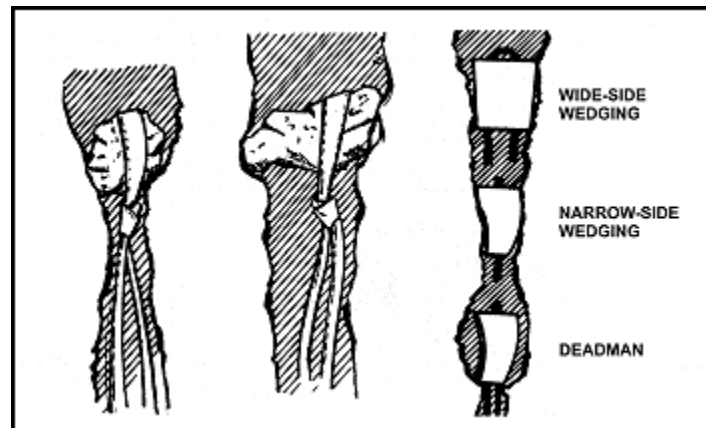

Figure 5-15. Chock placements.
c. **Placement.** The principles of placing chocks are to find a crack with a constriction at some point, place a chock of appropriate size above and behind the constriction, and set the chock by jerking down on the chock loop (Figure 5-15). Maximum surface contact with a tight fit is critical. Chocks are usually good for a single direction of pull.